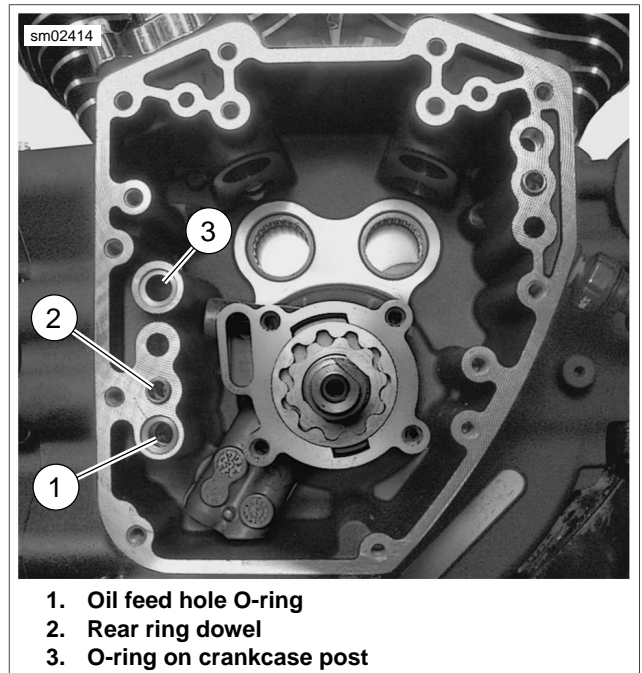

Figure 3-64. Oil Feed Hole
- d. Fit the smaller of the wide gerotor gears into the larger. Slide the wide gerotor set (4) down the crankshaft until it bottoms in the oil pump housing.
- e. Slide inside separator plate (2) down the crankshaft until it contacts the wide gerotor set (4). Install wave washer (3) and outside separator plate (2).
- f. Fit the smaller of the narrow gerotor gears into the larger. Slide the narrow gerotor set (1) down the crankshaft until it contacts the outside separator plate (2).
- g. See Figure 3-64. Apply a very thin film of clean H-D 20W50 engine oil to **new** o-ring (3) for crankcase post. Install **new** o-ring in groove on crankcase post.
1. See Figure 3-64. Apply a very thin film of clean H-D 20W50 engine oil to **new** o-ring (1) for crankcase flange. Install **new** o-ring in groove around oil feed hole directly below rear ring dowel (2).